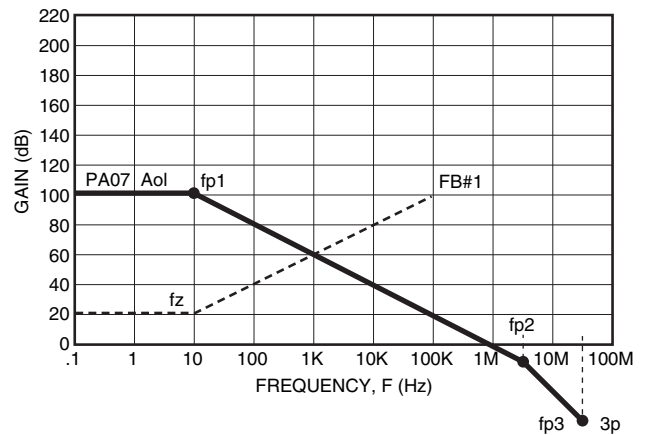
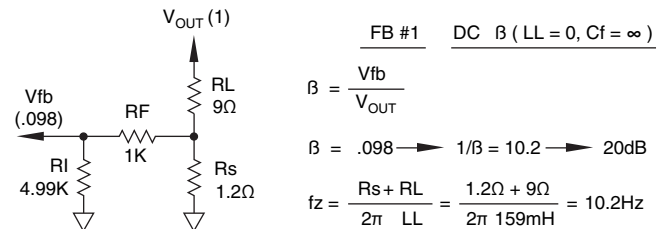

FIGURE 17. Aol AND FB # 1 – MAGNITUDE PLOT FOR STABILITY
FIGURE 18. FEEDBACK NO.1 (FB #1)
STEP 1: On Figure 17 plot the op amp's Aol curve as given by the manufacturer.
STEP 2: On Figure 17 plot FB#1. Refer to Figure 18 for calculation of FB#1. At DC, LL is a short and so β is a voltage divider through resistors as shown in Figure 18. As we go to higher frequencies, the reactance of LL will increase ($X_L = 2\pi fL$). This will increase the net load impedance which will cause β to decrease and 1/β to increase as frequency increases. Since we are working with a single reactive element the increase of that gain will be 20 dB per decade. Figure 18 details the breakpoint fz where this increase begins. We see that at the intersection of FB#1